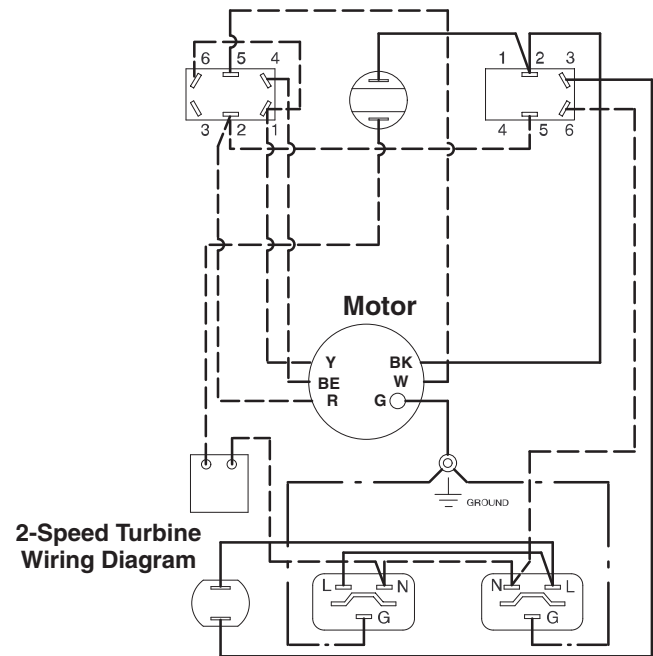

Fig. 4
5. Remove turbine motor wires from spade terminals on speed controller (48).
6. Rotate turbine (24) from outlet fitting (18) and lift up from turbine spacers (23) and turbine duct (5) to remove.
7. Remove rocker switch (31) and wires connected to it (Fig. 4 wiring diagram).
8. Remove two remaining wires connecting speed controller (48) to red rocker switch (34) and filter indicator light (33).
See Wiring Diagram in Fig. 4.